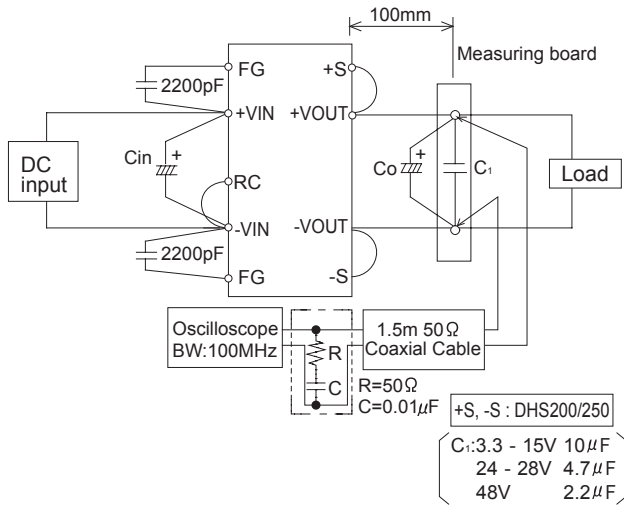

Fig.3.5 Method of Measuring Output Ripple and Ripple Noise
- The specified ripple and ripple noise are measured by the method introduced in Fig. 3.5.